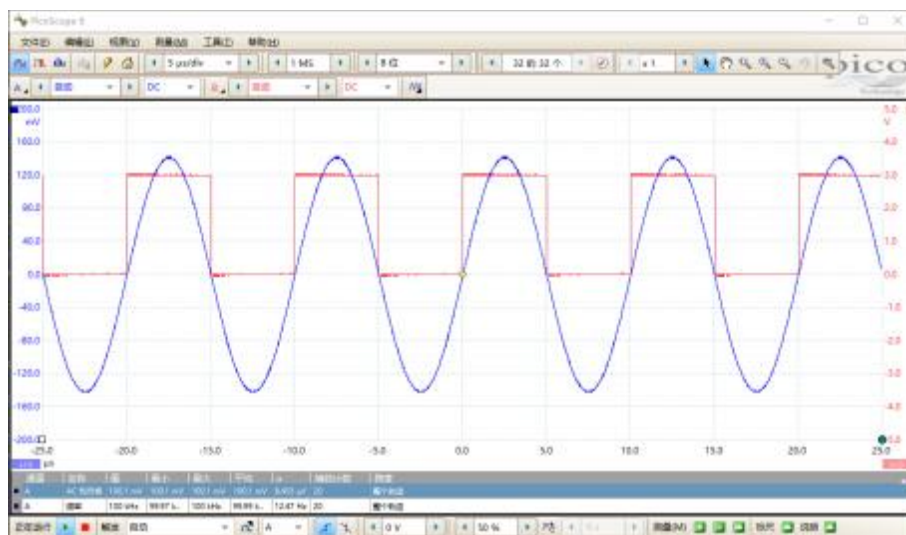

Figure 93. Waveform Diagram of the Signal to Be Measured
3. Turn on the power supply of the function signal generator, and set the parameters to "Waveform: Sine Wave," "Amplitude:  $100\text{ mV}_{\text{rms}}$ ," and "Frequency:"  $100\text{ kHz}$ ," "Output Impedance: High Impedance", "Synchronous Interface: Open", the waveform diagrams of the test signal and synchronization signal are shown in Figure 93: